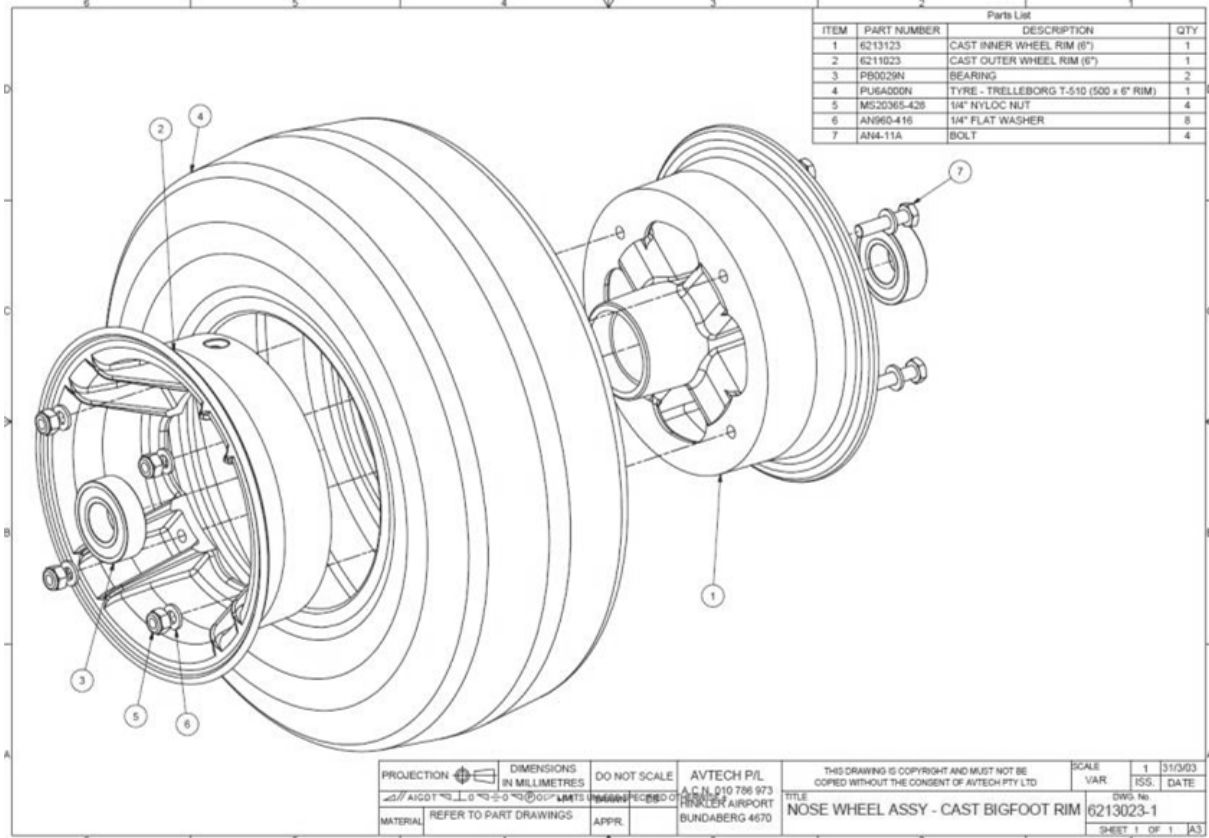

Figure 47 – Nose Wheel Hub Assembly
- Figure 47 shows a typical installation. While details and part numbers vary from model to model the general arrangement shown applies to all aircraft.